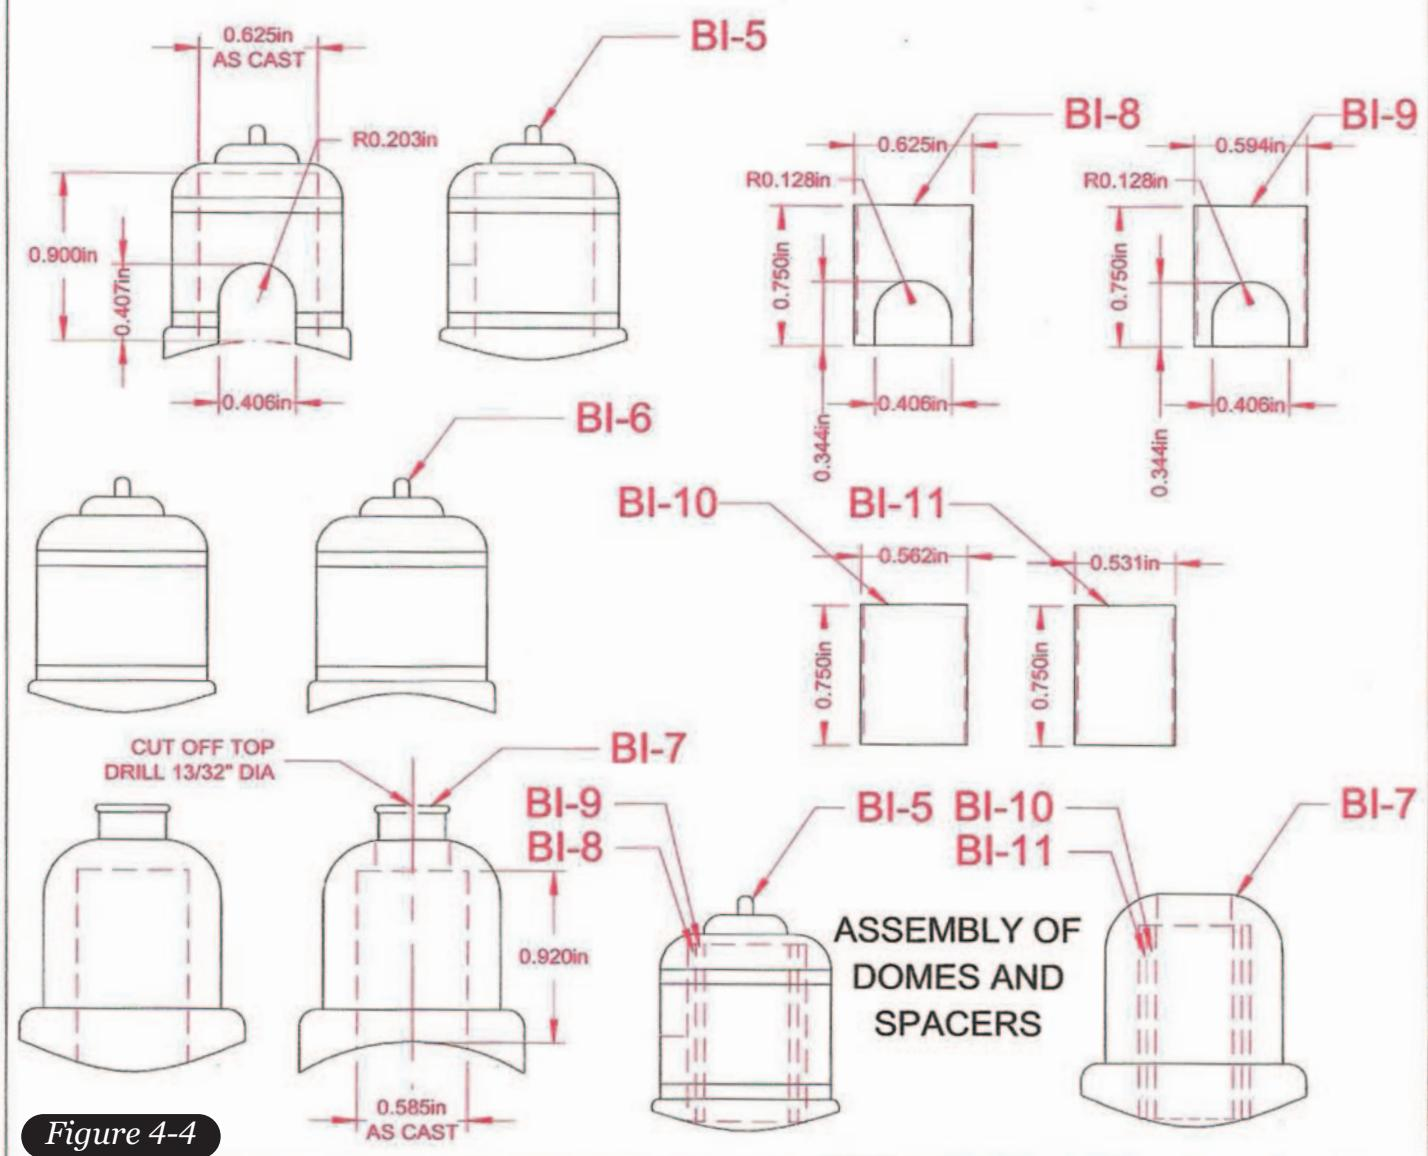

Figure 4-4
**Figure 4-4** shows the modification of the steam and sand domes to mount on the boiler. The location of the two rear domes is fixed because of the position of the throttle and filler bushings. The prototype for the inside frame locomotive had three domes, a steam dome with safety valve in the center and sand domes front and rear. The outside frame had but two domes, omitting the front one.
The mid dome is modified so that it slips over the safety valve and the safety valve exhausts through its top as it would on the prototype locomotive. **Figure 4-4** shows the modification required. The top of the steam dome is cut off and the depth of the inside diameter increased and squared off at the top. In the construction of the pilot model, the domes were modified using a rotary tool with a milling cutter. Note that if you do have a lathe this is a far easier job to do, but it was done on the pilot model with hand held power tools to show that the entire locomotive can be built without machine tools.
**Figure 4-4** details all modifications to be made to the domes, the sleeves necessary to properly mount the domes over the throttle and safety valve and assembly of the sleeves into their respective domes.